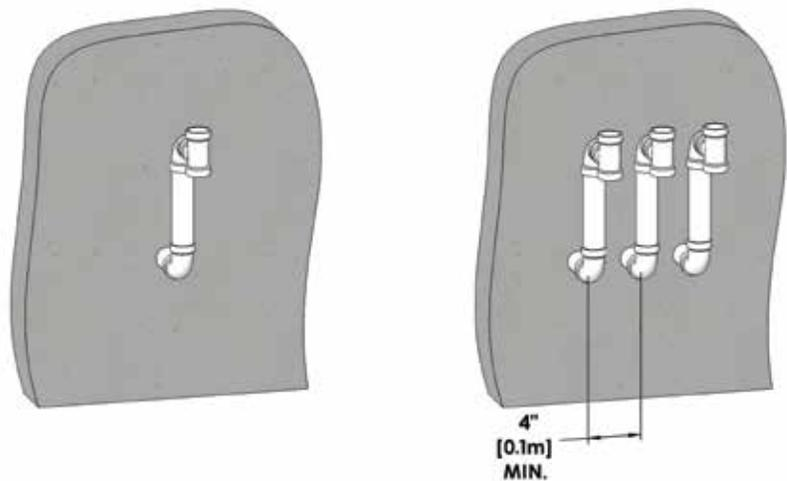

Figure 6: Sidewall vent termination - indoor combustion air applications
- The vent shall be terminated with a tee fitting as illustrated (see Figure 6).